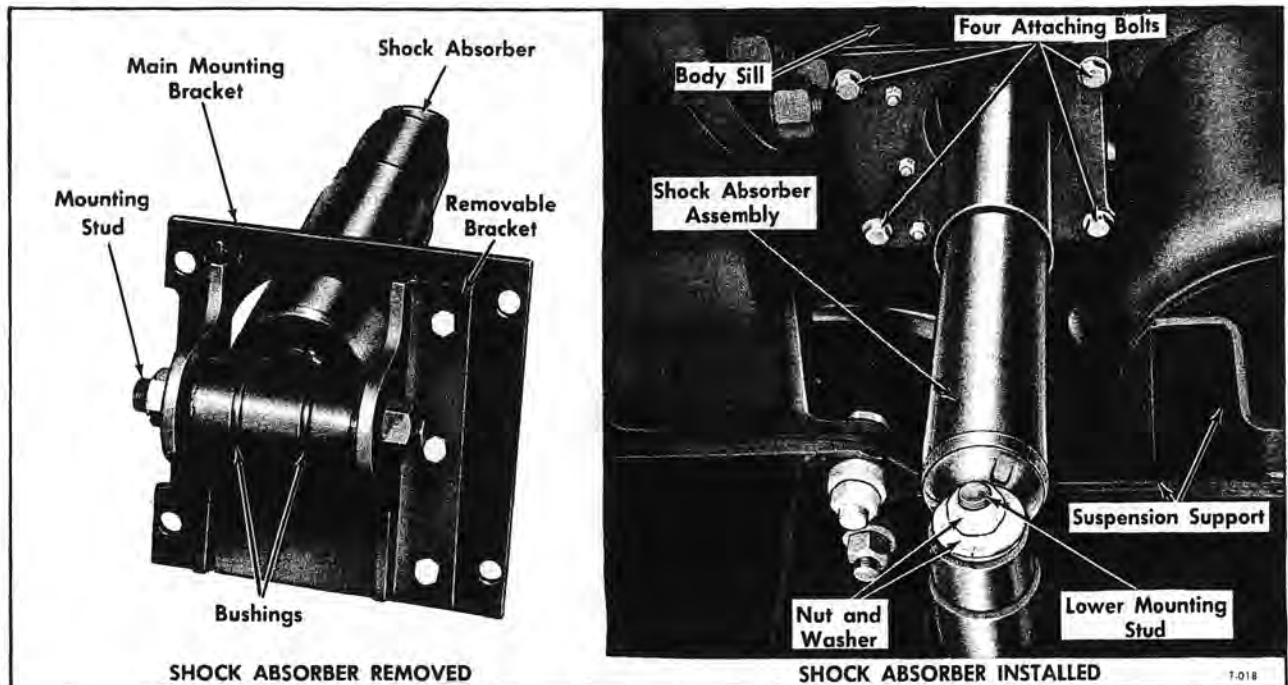

Figure 39—Rear Shock Absorber
#### REMOVAL - REAR (Refer to Fig. 39)
2. At lower mounting stud, remove nut and washer retaining shock absorber to stud. Remove shock absorber with attached upper bracket. Left view in figure 39 shows assembly removed.
#### INSTALLATION - REAR (Refer to Fig. 39)
1. Assemble rubber bushings to the shock absorber upper eye, mounting stud, and main mounting bracket as shown in left view of figure 39.